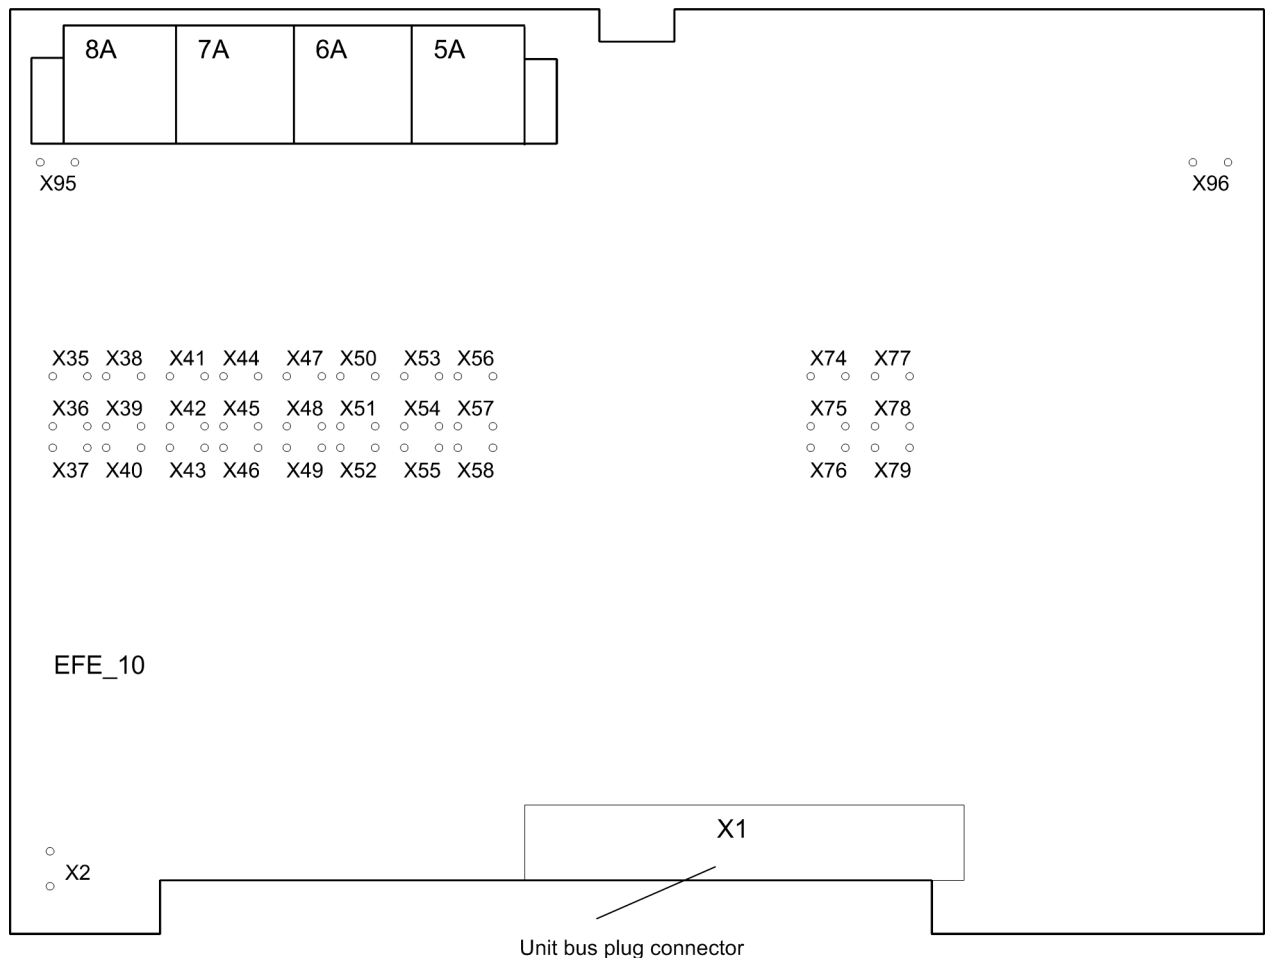

Figure 3-4 Location of the jumpers on the EFE\_10 module (bay unit 7SS525)
- ❑ Remove the plug connector X1 to the front plate on the EFE\_10 module (Figure 3-4, page 57) and pull out the module.
- ❑ Change the rated control voltages of the binary inputs to the desired settings, see Figure 3-4, page 57 and Table 3-4, page 58.